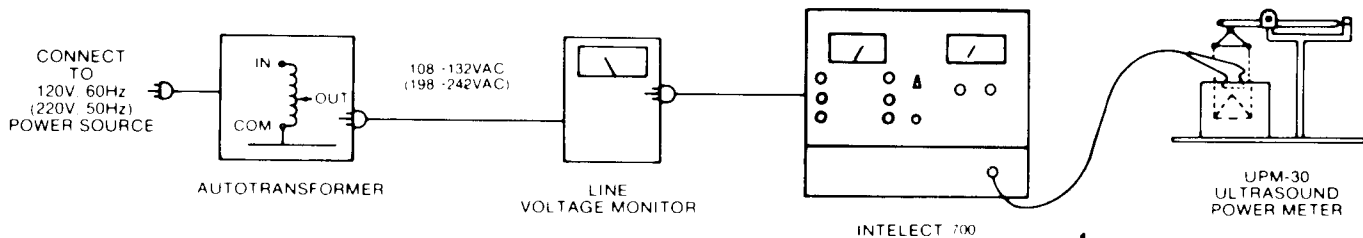

FIGURE 1
C. Connect the test set-up in Figure 1: